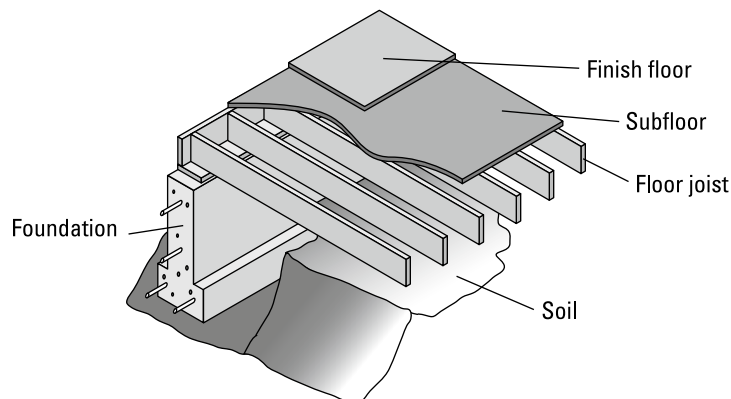

FIGURE 4-2:
- » **Solid concrete (see Figure 4-2):** Solid concrete foundations are made of a mixture of cement, sand, rock or gravel, and water and are considered among the strongest of foundation materials. When poured into forms and left to dry, this pancake-batter-like blend becomes unbelievably rigid. Steel reinforcing bars are used within the concrete to create added strength. In some cases, concrete foundations are constructed of pre-cast concrete panels, made in a factory, and shipped to the building site for assembly. Factory-built concrete panels have gained in popularity because factories can build them more accurately and efficiently than can be done in the field.